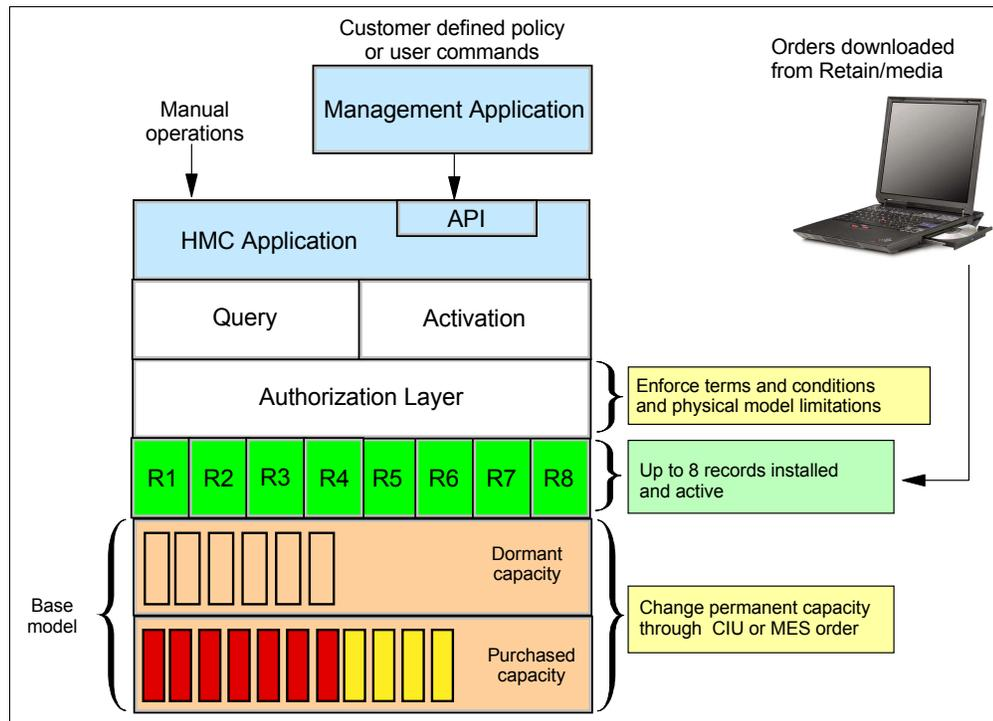

Figure 9-1 The provisioning architecture
The base model z114 describes permanent and dormant capacity (Figure 9-1) using the capacity marker and the number of PU features installed on the CPC. Up to eight temporary offerings can be present. Each offering has its own policies and controls, and each offering can be activated or deactivated independently in any sequence and combination. Although multiple offerings can be active at any time, if enough resources are available to fulfill the offering specifications, only one On/Off CoD offering can be active at any time.
Temporary upgrades are represented in the z114 by a *record*. All temporary upgrade records, downloaded from the remote support facility (RSF) or installed from portable media, are resident on the Support Element (SE) hard drive. At the time of activation, the client can control everything locally. Figure 9-1 shows a representation of the provisioning architecture.